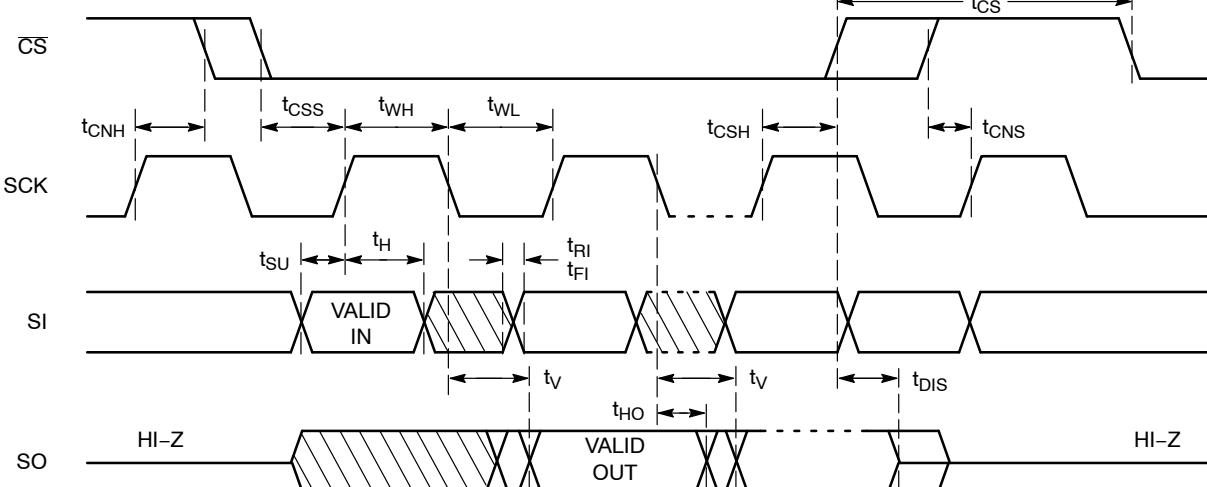

Figure 2. Synchronous Data Timing
8. All Chip Select (CS) timing parameters are defined relative to the positive clock edge (Figure 2). t_{CSH} timing specification is valid for die revision D and higher. The die revision D is identified by letter "D" or a dedicated marking code on top of the package. For previous product revision (Rev. C) the t_{CSH} is defined relative to the negative clock edge (please refer to data sheet Doc. No. MD-1006 Rev. U)
After a high to low transition on the \overline{CS} input pin, the CAT25010/20/40 will accept any one of the six instruction op-codes listed in Table 9 and will ignore all other possible 8-bit combinations. The communication protocol follows the timing from Figure 2.